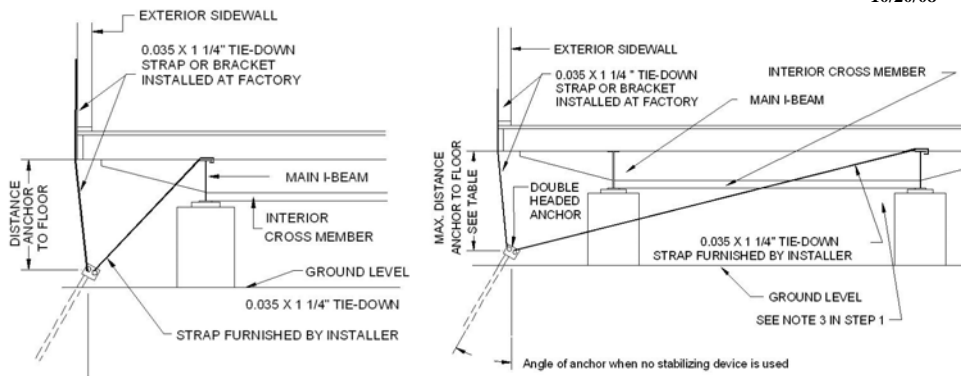

Figure 66. Lateral tie-down configurations
* For near and far beam installation, see **Figure 66**.